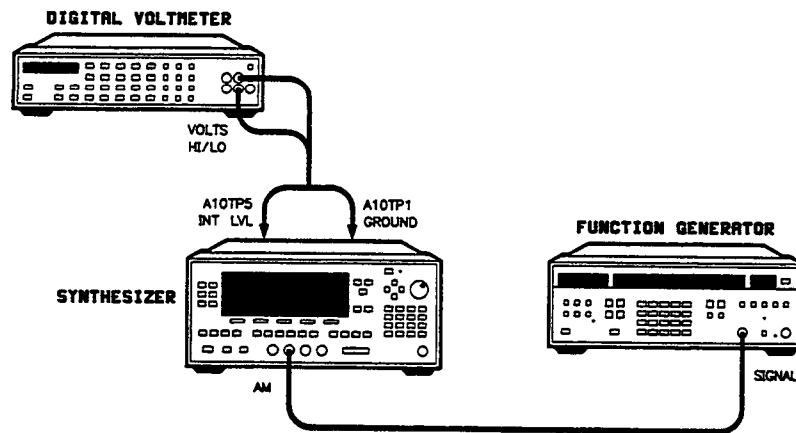

Figure 3-33. AM Delay Adjustment Setup
1. Preset the instruments shown in figure 3-33 and let them warm up for at least one hour.
3. Connect the equipment as shown in figure 3-33.